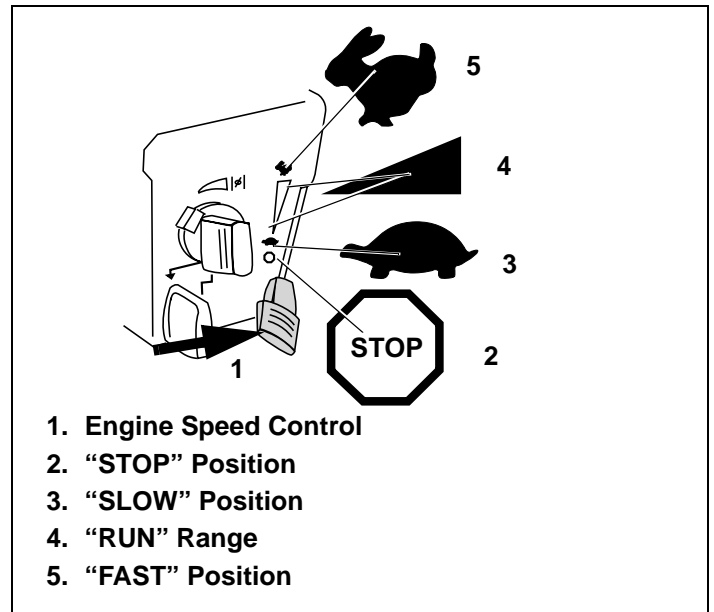

Figure 31. Engine Speed Control Positions
1. Move equipment control, if present (see manufacturer's instructions), engine control lever or ignition switch to "STOP" or "OFF" position. See Figure 31.